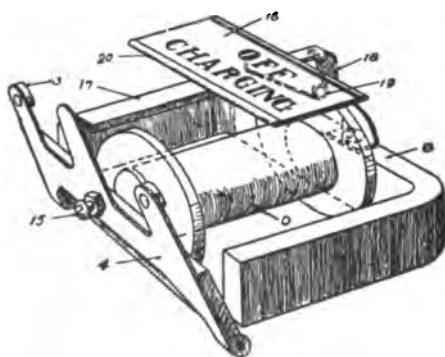

Fig. 294. Details of Leece-Neville Indicator
**Instruments.** An indicating type of battery cut-out is employed, thus combining the functions of the cut-out and ammeter in one device. The details of this device are shown in Fig. 294. *O* is the winding or coil of the electromagnet